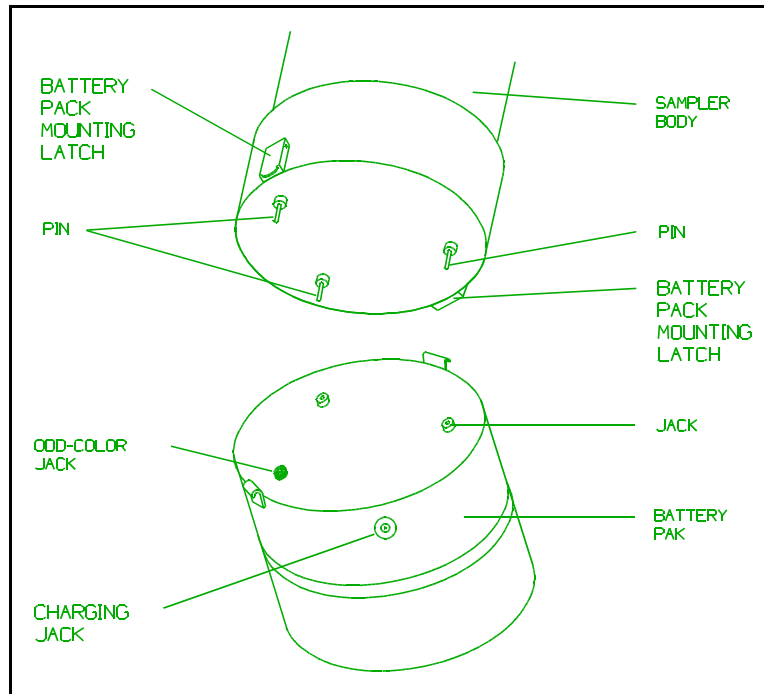

Figure 2.1. Attaching Battery Pack
1. Lift the sampler over the battery pack and carefully insert the banana pins extending from the sampler bottom into the sockets on the top of the battery pack. The pins are unevenly spaced and can fit only one way—**the pin closest to a latch on the sampler body inserts into the odd colored receptacle on the battery pack** (see Figure 2.1).